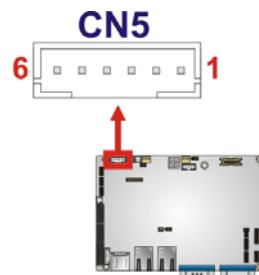

Figure 3-12: LED and +5 V Power Output Connector Location
**CN Location:** See Figure 3-12